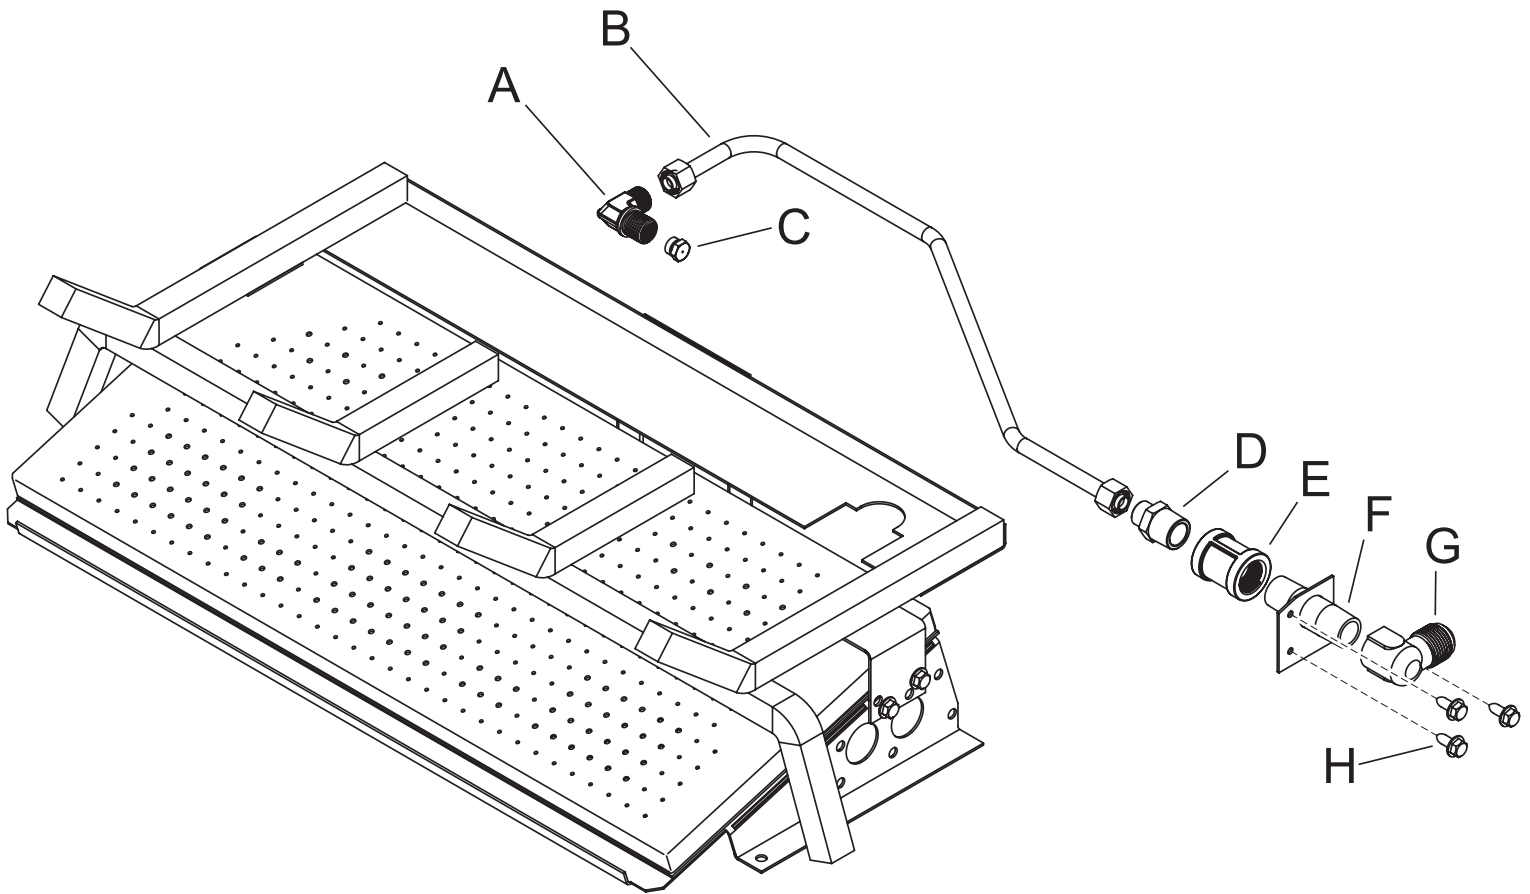

Figure 1
Match-Light Components - Disassembly Diagram (Figure 1)
**REFERENCE FIGURE 1 AND TABLE 1 DURING THE FOLLOWING DISASSEMBLY STEPS:**
3. Using a 9/16" wrench, remove the Match Light Tube Assembly (B) from the Orifice Fitting Elbow (A) and the Tube Connector (D).
4. Using an adjustable wrench, remove the 1/2" Flare Elbow (G) from the nipple on the side of the burner. Keep this for later.
5. Using a 5/16" hex driver, remove the three #10 screws (H), Nipple Weldment (F), 3/8" NPT Union (E), and Tube Connector (D).
6. Un-screw the Orifice Fitting Elbow (A) from the Venturi Air Shutter. Remove the orifice from the Fitting Elbow. Discard the orifice but **KEEP THE FITTING ELBOW FOR LATER.**